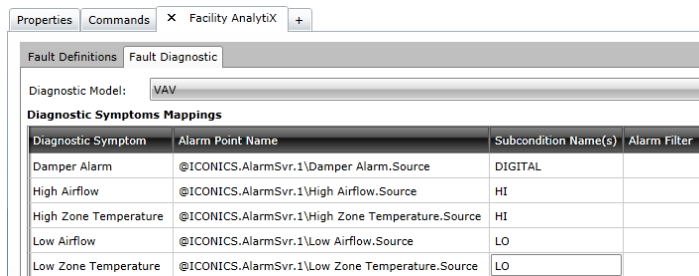

Figure 7 - Configured Fault Diagnostic tab
5. Click **Apply** to save your changes. Your completed **Fault Definitions** tab may look similar to Figure 7.
We will not go into great detail in this section, but for this example there were 5 alarms configured in the AlarmWorX64 Server to account for the High Zone Temperature, High Airflow, Damper Alarm, Low Airflow, and Low Zone Temperature symptoms we previously mentioned. The resulting **Fault Diagnostic** tab may look similar to Figure 7.